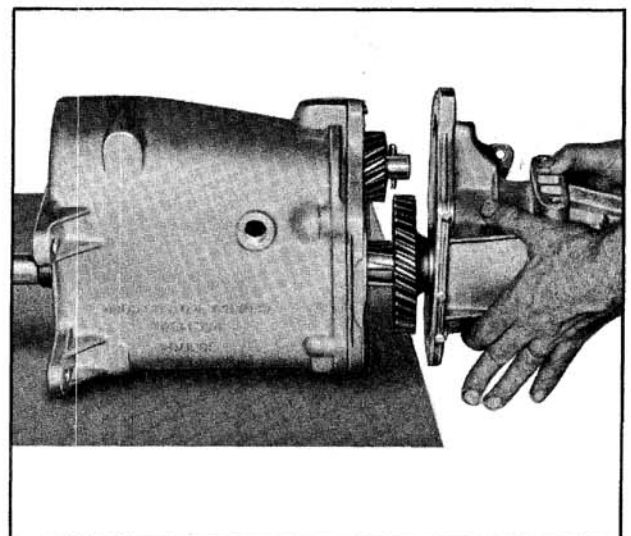

Fig. 7-77 Installing Case Extension
18. Pull reverse shifter shaft to left side of extension and rotate shaft to bring reverse shift fork forward in extension (reverse detent position). Start the extension onto the transmission case (Fig. 7-77), while slowly pushing in on the shifter shaft to engage the shift fork with the reverse gear shift collar; then pilot the reverse idler shaft into the extension housing, permitting the extension to slide onto the transmission case.